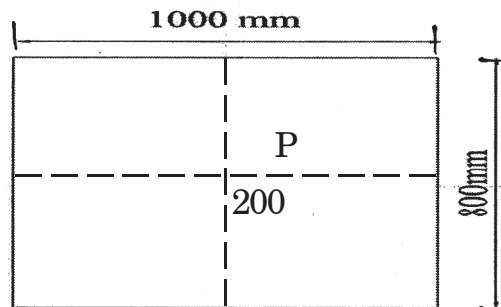

Figure 8.1
- (b) A column support load of 400 kN as shown in figure. Find the stresses at the corner of the column at its base. (Refer figure 8.1) [6]